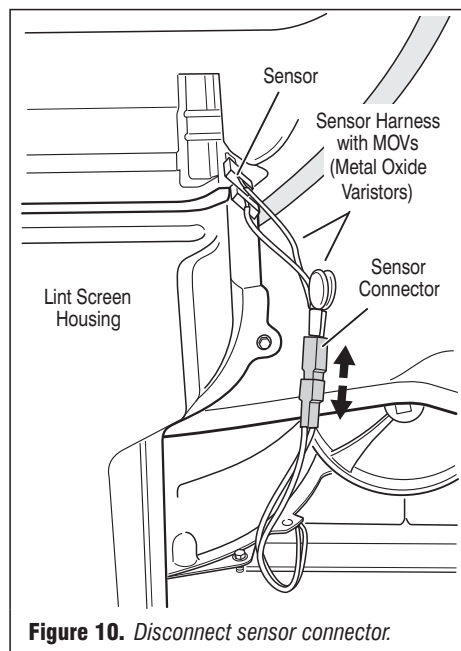

Figure 10. Disconnect sensor connector.
4. Unplug dryer or disconnect power. Access the moisture sensor wires by removing the front panel. See Removing the Front Panel/Drum Assembly, page 9. Disconnect the sensor connector. See figure 10.
7. Disconnect the moisture sensor connections. See figure 10, page 7.